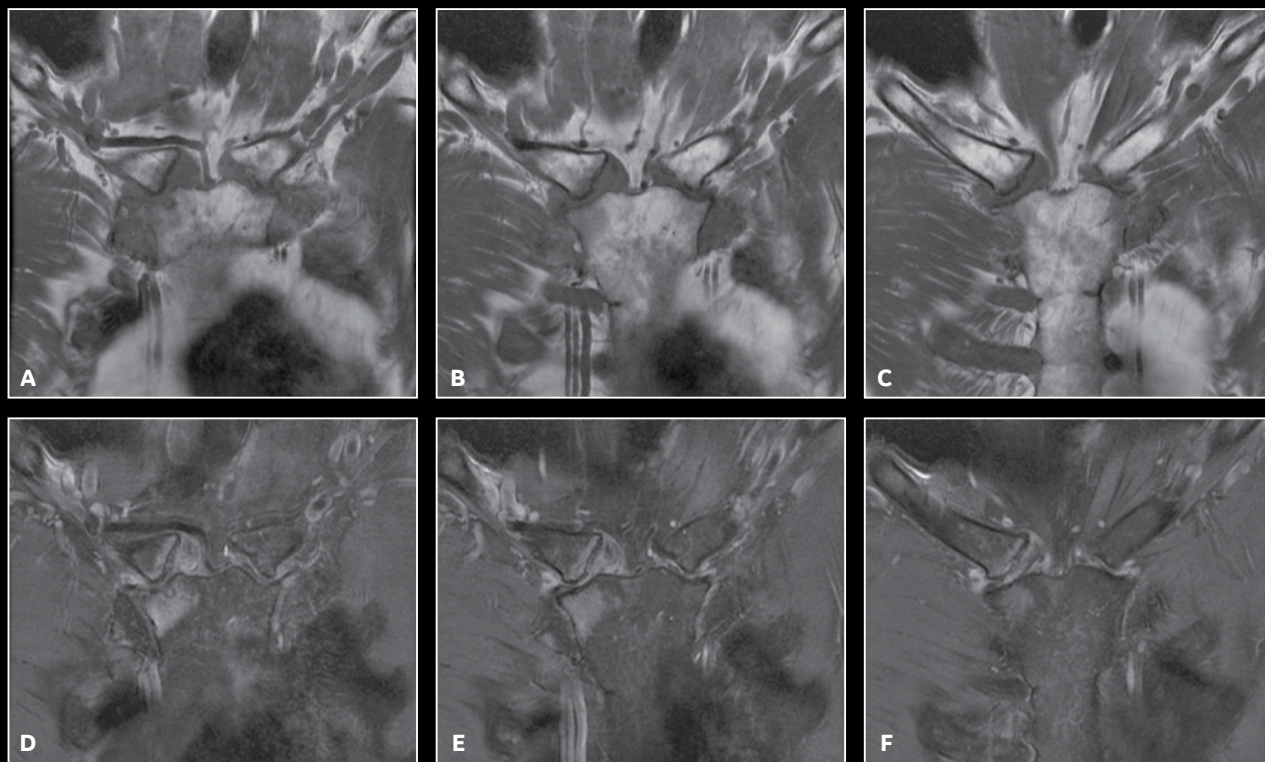

Figure 2. Sternoclavicular joint imaging with AIR™ AA Coil. (A-C) T1 coronal and (D-F) T2 coronal FatSat.
Figure 2. Coronal PD FSE shoulder exam (A) without PROPELLER, $0.3 \times 0.4 \times 3$ mm, 4:04 min., and (B) with PROPELLER, $0.3 \times 0.3 \times 3$ mm, 3:43 min.
Figure 2. AIR™ AA Coil and PA for abdominal imaging deliver better than expected coverage, signal homogeneity, high spatial resolution and homogeneous fat suppression. A thickening of the terminal ileum (red arrows) is consistent with Crohn's disease. (A) Axial T2 SSFSE; (B) Axial DWI b1000; (C) Coronal T2 SSFSE; (D) Axial T2 SSFSE FatSat; and (E) Axial T1 LAVA ASPIR.